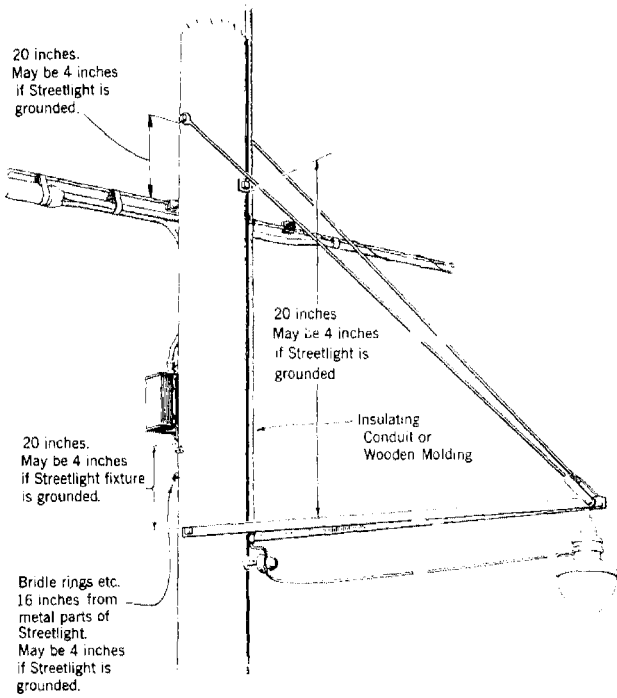

Fig. 3
2.05 Drivehooks, bridewire rings and brackets shall have a clearance of at least 16 inches from streetlight fixtures or span wires which **are not grounded**, and at least 4 inches from fixtures and span wires which **are grounded** (See Fig. 3).